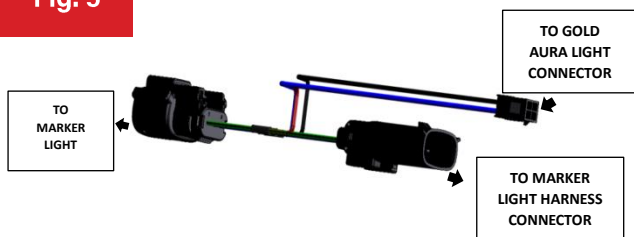

Fig. 4
9. When you're ready to install the Gold Aura Light, remove the backing tape from the Light and carefully press it into place on the surface after wiping the surface where the light will mount with the ADHESIVE PROMOTER WIPES provided (FIG. 4).